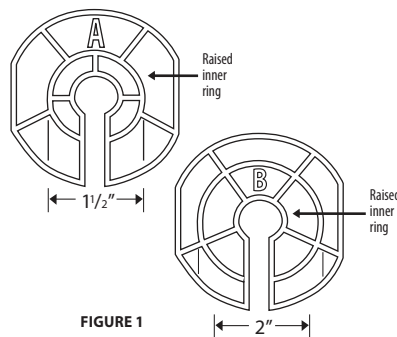

FIGURE 1
We recommend that you remove the entire drain assembly. To remove this assembly you must first remove the plastic nut found on the outside of your Rubbermaid tank. This nut holds the drain assembly in place. After the nut is removed, the drain assembly can be removed. You should remove the threaded drain assembly, plastic nut and rubber gasket. Save these items to be reinstalled in your tank after the heating season. If you're using a Rubbermaid tank and have removed the drain assembly as described above, you should choose side "B" of the nut as shown in figure 1. You will install your de-icer with this side facing the tank.
1. Determine the correct side by placing the nut against the drain hole on the outside of the tank. Try to fit the diameter of the raised inner ring of each side of the nut into the inner diameter of the drain hole (see figure 1). Choose the side that fits most snugly. This will help secure and center the de-icer within the opening of larger drain holes found on some tanks.
figure 1 is larger in diameter than the drain hole diameter found on your tank, then you may use either side of this nut. This indicates that the drain hole is small enough to allow your de-icer to remain centered within the drain opening.